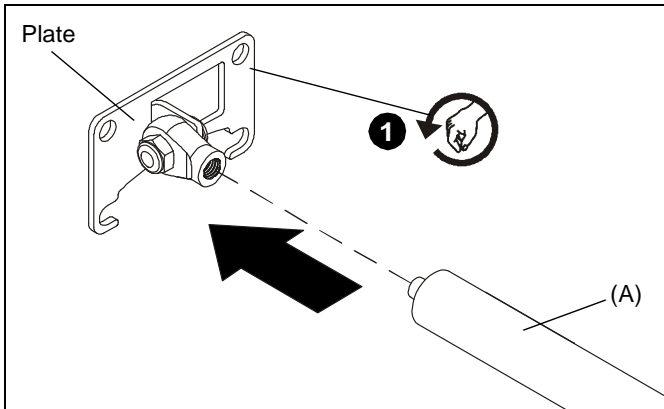

Figure 4
1. Remove and save end plate from end of gas spring assembly (A) by turning plate counterclockwise. (See Figure 4)